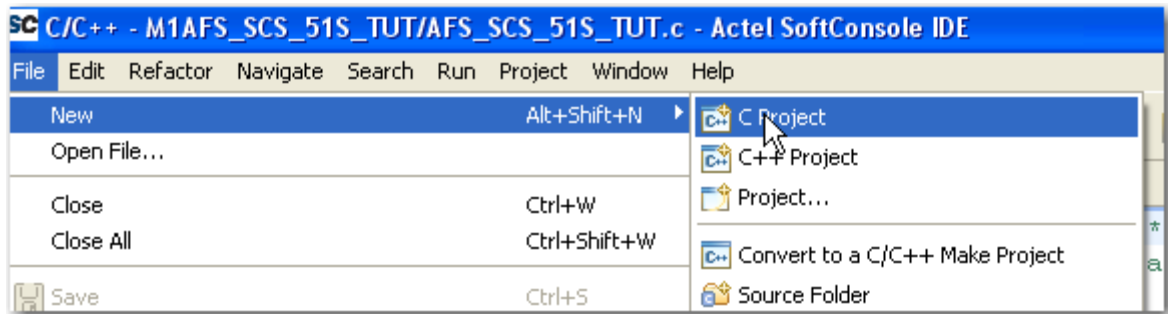

Figure 1-2 · Selecting Project Type
- From the menu choose **File > New > C Project** (Figure 1-2 on page 9). The C Project window will open.